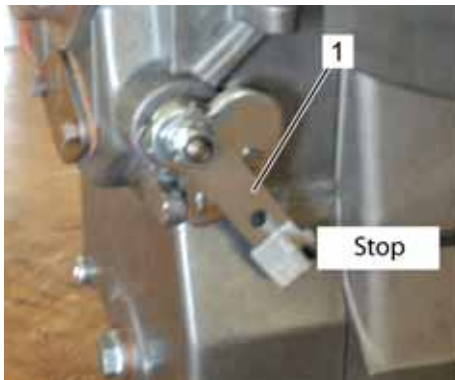

Fig. 42
- Put the speed adjustment lever (1) in the STOP position and hold it there until the engine comes to a complete standstill after approx. 10 to 20 seconds.
**Never turn off the engine with the automatic decompression at full load.** Before turning off first let the engine run for approx. 5 minutes in idle mode and then pull the speed adjustment lever to the stop position (Fig. 42/1) and hold it there until the engine stops after approx. 10 to 20 seconds.